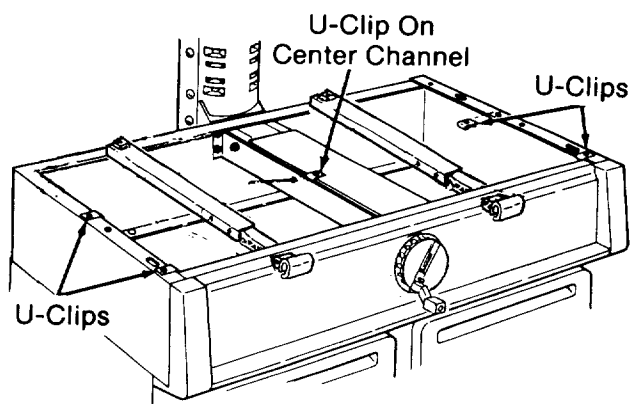

Fig. 77
2. Slide four *U-clips* over the holes in the *saw* as shown. (Figure 77)
3. Slide one *U-clip* over the hole in the left side of the center channel as shown. (Figure 77)